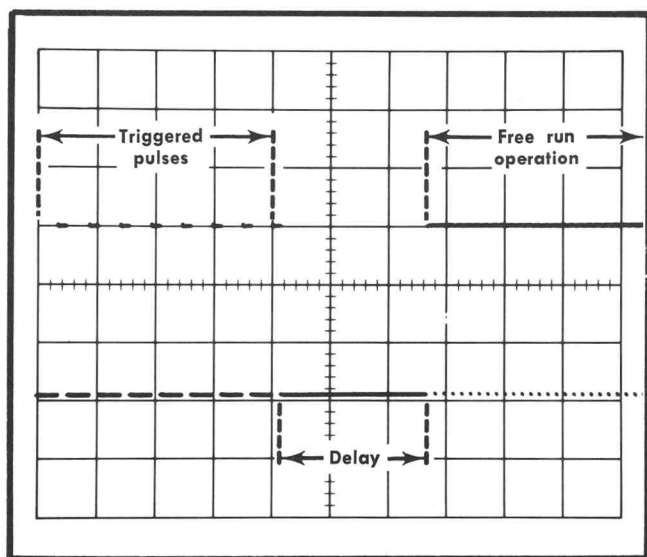

Fig. 5-7. Typical test oscilloscope display when checking sweep free run delay.
g. CHECK—Sweep free run delay is between 2 and 4 seconds. See Fig. 5-7.